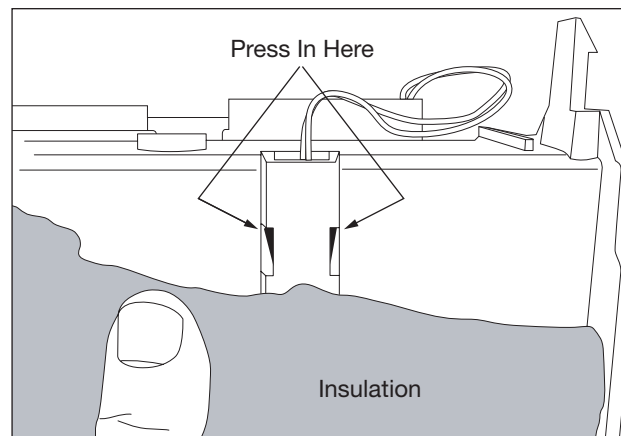

Figure 5-23. Floor Beam LED Removal
6. Carefully pull back the insulation covering the access holes of the LED light. Press in on the retaining latches of the LED and remove from valve service cover. (See Figure 5-23)